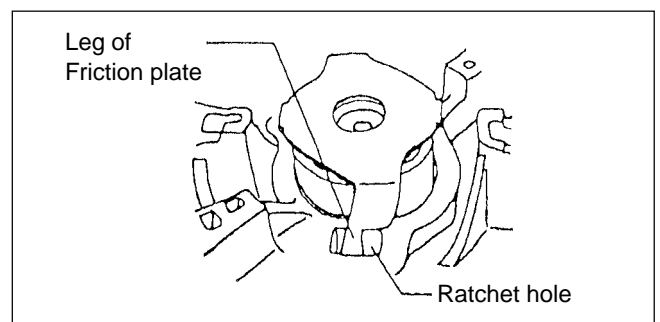

Fig. 10-14
-3: Insert the legs of friction plate (2 places) in ratchet holes. (Fig.10-14)
(3) Tighten the center screw. (2 people required for this step.)